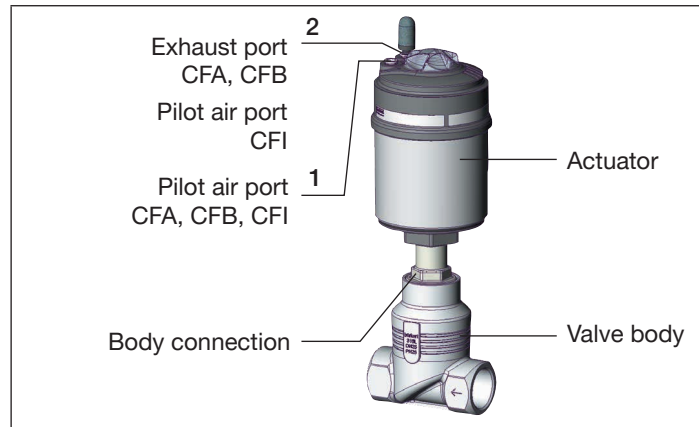

Fig. 28: Part designation
- For **control function A and I** pressurise the pilot air port 1 with 6–8 bar (see “Fig. 28: Part designation”).
- For **control function B** pressurise the pilot air port 2 with 6–8 bar (see “Fig. 28: Part designation”).